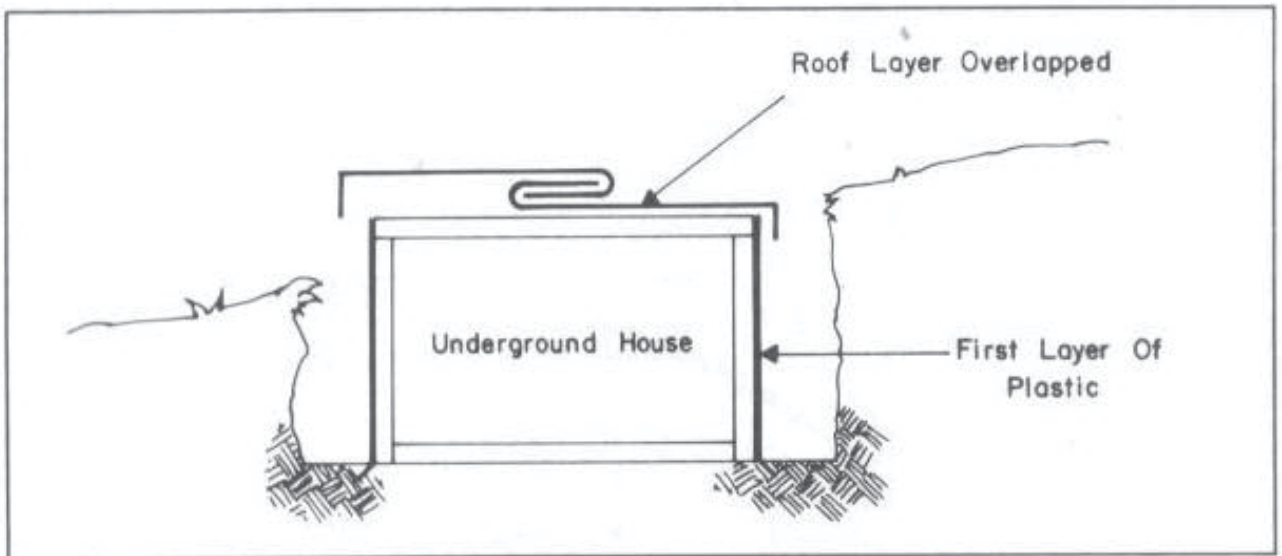
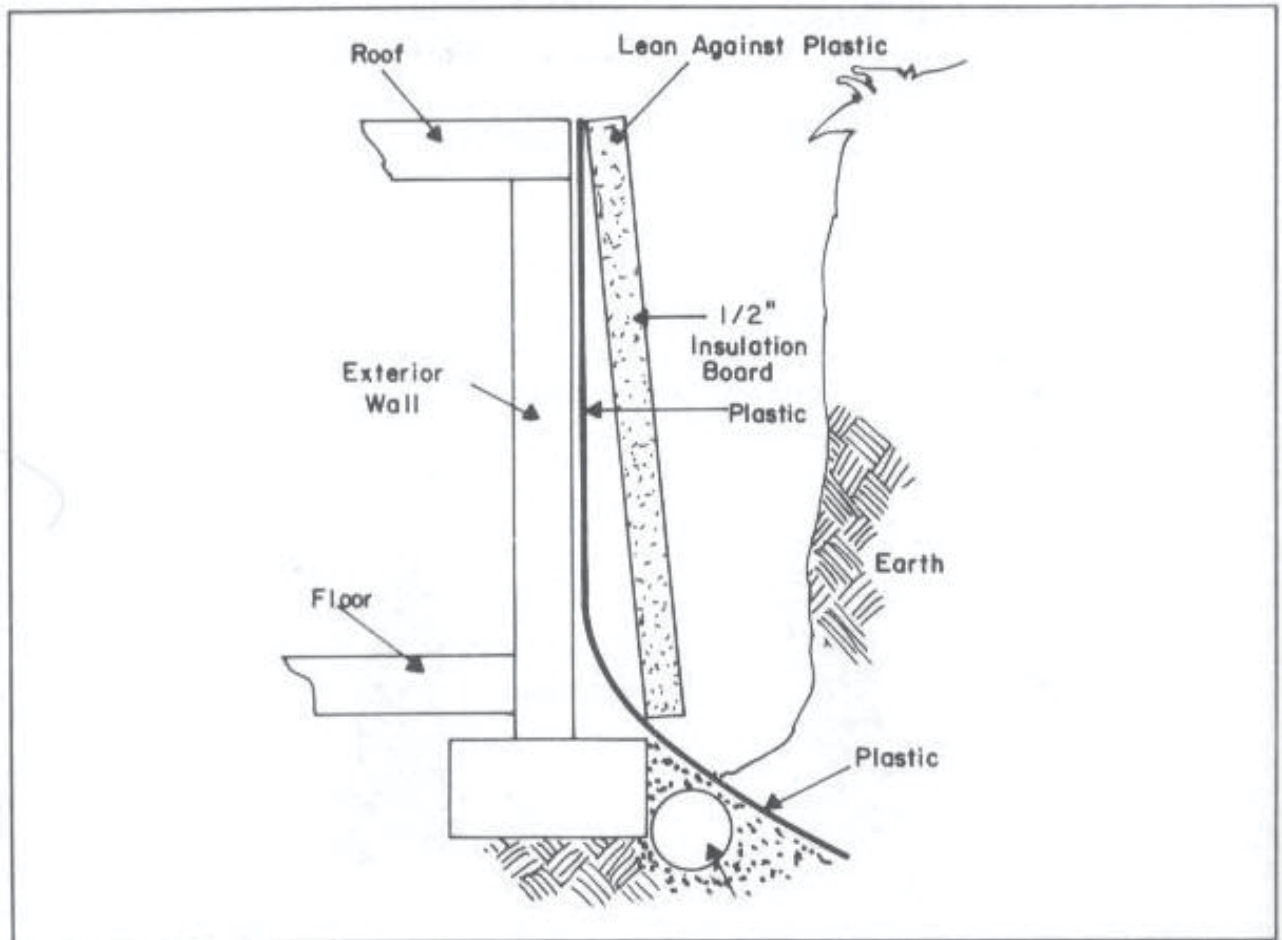

Fig. 13-6. Overlap the roof with plastic against the wall. Be sure to spread tar in between with a brush to form a good bond.
Fig. 13-7. If money is no factor, use insulation on particleboard to shield against rocks tearing the plastic as you backfill.
If I could do it over again, I would prefer to spray the walls from the bottom to the top and then wrap them with the polyethylene by folding a piece of polyethylene 20 feet wide in half to form a piece 10 feet wide. By the length of your house or 100 feet, whichever is greater, you can rather easily attach the plastic to the wall by brushing on a new layer of tar or asphalt near the ceiling line. See Fig. 13-6. This will allow the polyethylene to hang down as a curtain, all the wrinkles will fall out, and you can easily maneuver it to get it straight and wrap around a corner. Be sure that the plastic folds out over the drain field at the lower wall (as in Fig. 13-7).
This board does act as a shield against the rocks or stones hitting the plastic. Use your good judgment and decide if this extra precaution is necessary. (Fig. 13-7). Once the walls are covered with plastic insulation board and the earth is backfilled to a level about 18 inches below the roof
**Time Is Important.** I do not recommend that you let a long period of time pass before beginning the backfilling of the roof. Try to avoid a heavy rainfall from running down behind the plastic (as in Fig. 13-7). If it does happen it will cause the water to seep down behind the plastic but in front of the tar. It could take quite a while to dry out thoroughly.